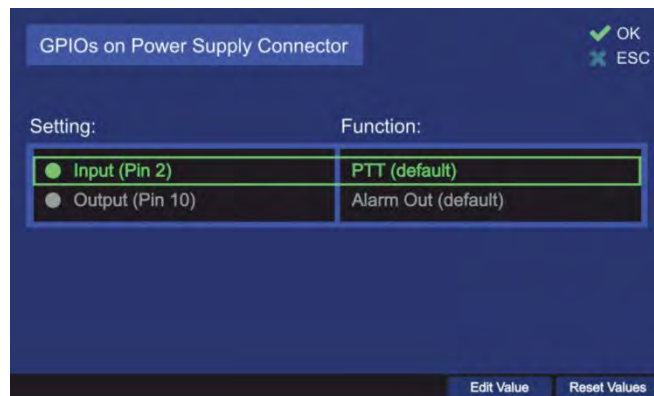

Figure 123. Dialog for setting the GPIOs
- In order to define, which signals are to be allocated to the IOs, select the setting “GPIOs (Power S. Connector)” (s. Figure 108) and press “OK” or the hotkey “Edit Value”. The following dialog appears (s. Figure 123. Dialog for setting the GPIOs).